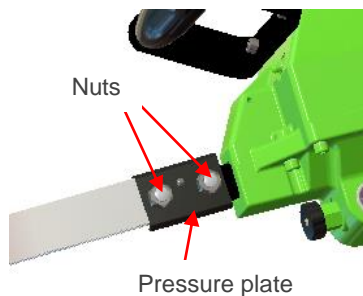

Fig. 2
- Equip the saw with the appropriate saw blade. For this, loosen the nuts (see fig. 2), remove pressure plate and mount the saw blade. Mount the pressure plate and fix it by tightening the nuts.